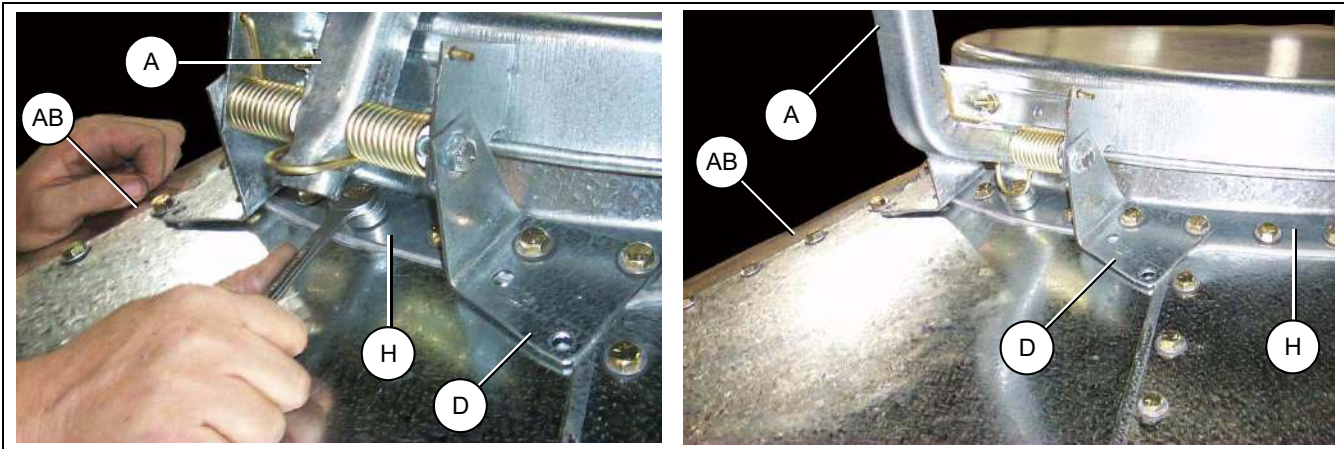

Figure 10M Installing the GHT Roof Cap Assembly to the Peak Collar
- Place the roof cap assembly over the existing peak ring collar and rotate it until the control arm (A) and spring hinge align with the roof eave bracket (Z). (See Figure 10M.)
- Install the lower cap hinge brackets (D) to the peak ring (H) and roof panel (AB) using existing hardware. (See Figure 10M.)